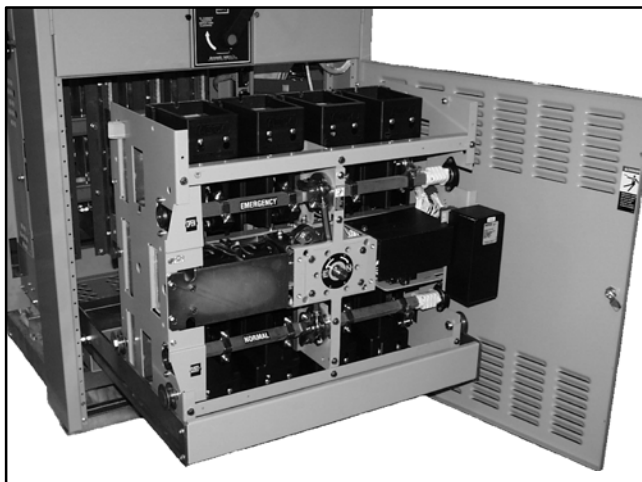

Figure 11-2 Isolated and Pulled-Out Transfer Switch
1. Bypass, isolate, and pull out the transfer switch. Follow the procedure explained in the Bypass/Isolation Switch Operation and Installation Manual. See Figure 11-2. Verify that no electrical power is present at the pulled-out transfer switch.
1. Bypass, isolate, and pull out the transfer switch. Follow the procedure explained in the operation manual. Verify that no electrical power is present at the pulled-out transfer switch. See Figure 11-2.
1. Install the adjusting hub and maintenance handle. Insert the maintenance handle completely into the hub (compress the handle spring) and grasp it firmly. Use the maintenance handle to close the contacts that you are checking or adjusting (if they are not already closed). See Figure 11-2.